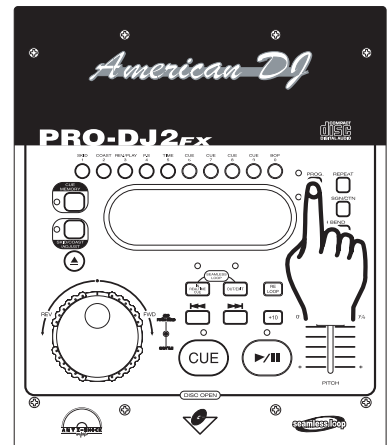

Figure 29
- 7) When you have finished your programming and are ready to begin playback simply press the *PLAY/PAUSE BUTTON (19)* and your program will begin to play.
- 9) To cancel and clear the program press and hold down the *PROGRAM BUTTON (8)* for more than two seconds (see figure 29).